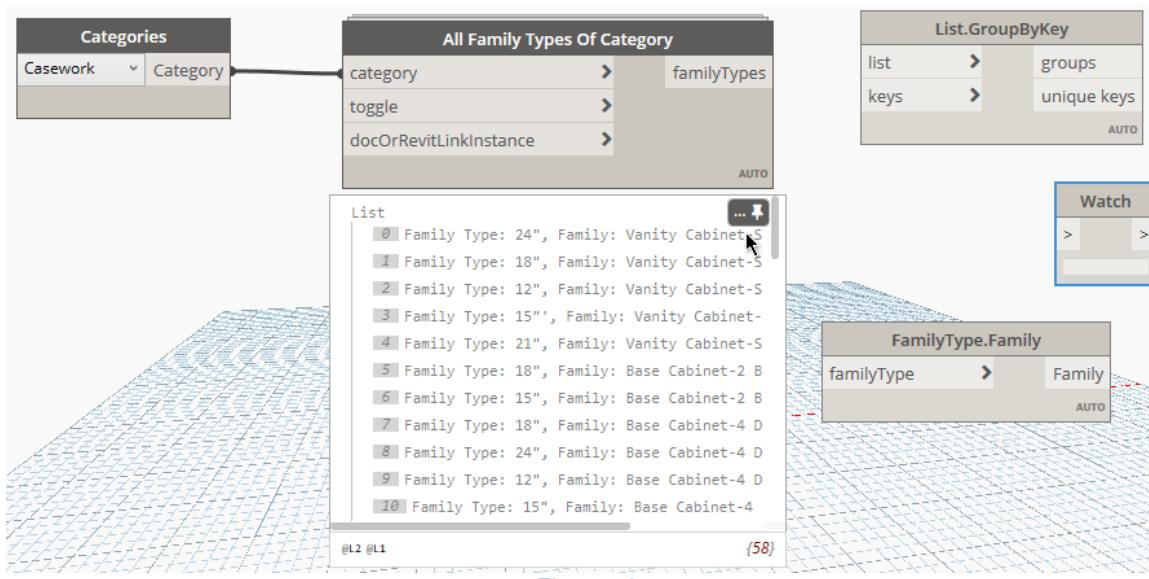

Figure 46
5. From the drop-down list on the **Categories** node, choose: **Casework** and then expand the preview bubble (see Figure 46).